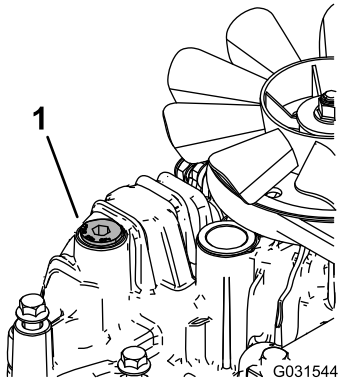

Figure 62
11. Loosen the vent plug in each transmission so that it is loose and wobbles (Figure 62).